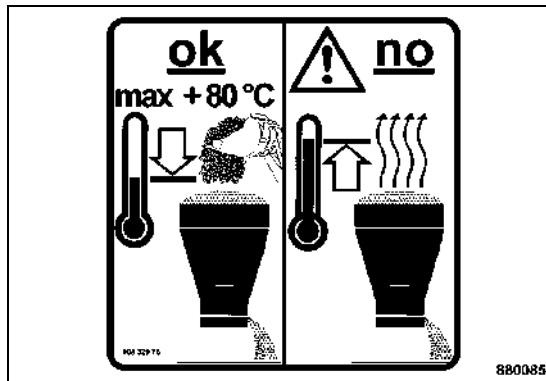

Fig. 95
- Fill the chippings container with no more than 200 litres of chippings (Fig. 95) (specific weight of chippings 1.5 t/m3).